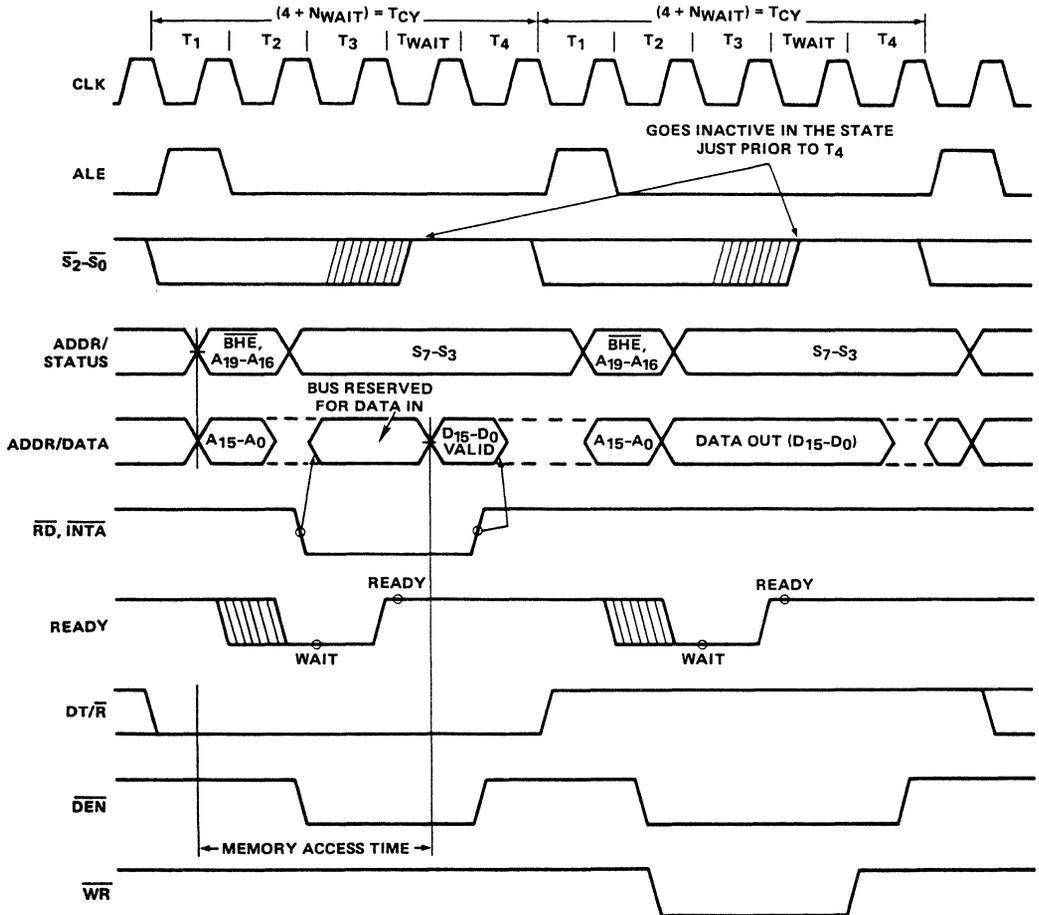

FIGURE 3. BASIC SYSTEM TIMING
Each processor bus cycle consists of at least four CLK cycles. These are referred to as T1, T2, T3 and T4 (see Figure 3). The address is emitted from the processor during T1 and data transfer occurs on the bus during T3 and T4. T2 is used primarily for changing the direction of the bus during read operations. In the event that a "NOT READY" indication is given by the addressed device, "Wait" states (TW) are inserted between T3 and T4. Each inserted wait state is the same duration as a CLK cycle. Periods can occur between 80C86 driven bus cycles. These are referred to as "idle" states (TI) or inactive CLK cycles. The processor uses these cycles for internal housekeeping and processing.
Typical system configurations for the processor operating in minimum mode and in maximum mode are shown in Figures 6A and 6B, respectively. In minimum mode, the MN/MX pin is strapped to VCC and the processor emits bus control signals (e.g. RD, WR, etc.) directly. In maximum mode, the MN/MX pin is strapped to GND and the processor emits coded status information which the 82C88 bus controller uses to generate MULTIBUS compatible bus control signals. Figure 3 shows the signal timing relationships.